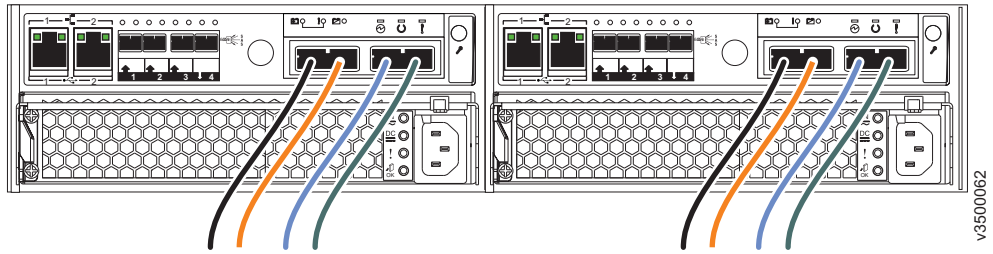

Figure 31. Example configuration with four Fibre Channel cables per canister
2. If you want to connect additional Fibre Channel cables, make sure to connect the same number of cables to each canister. Figure 31 on page 40 shows an example configuration with four Fibre Channel cables connected to each canister.